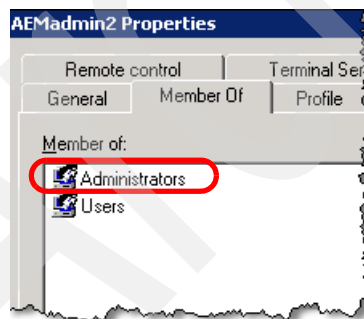

Figure 4-7 User ID Properties panel
3. To fully control IBM Systems Director features, the user ID needs to belong to member of the Administrators group. Click **Action** → **Properties** on the user ID that you just created, and go to the Member Of tab to add the Administrator role, as shown in Figure 4-7.